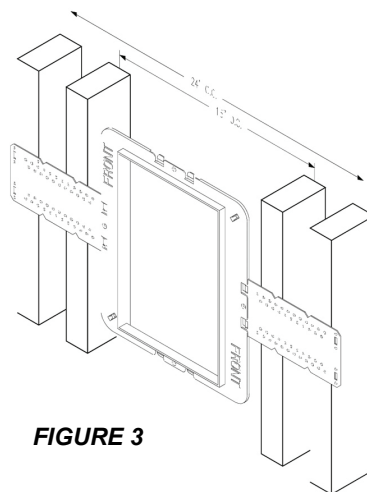

FIGURE 3
Step 2. Speaker mounting rings are used in the pre-construction phase of speaker installation during construction of new homes and additions. WG Series mounting rings are designed to provide drywall installers the correct cut-out pattern for the speakers. The rings have wings that are nailed/screwed/stapled onto the studs. See figure 3.